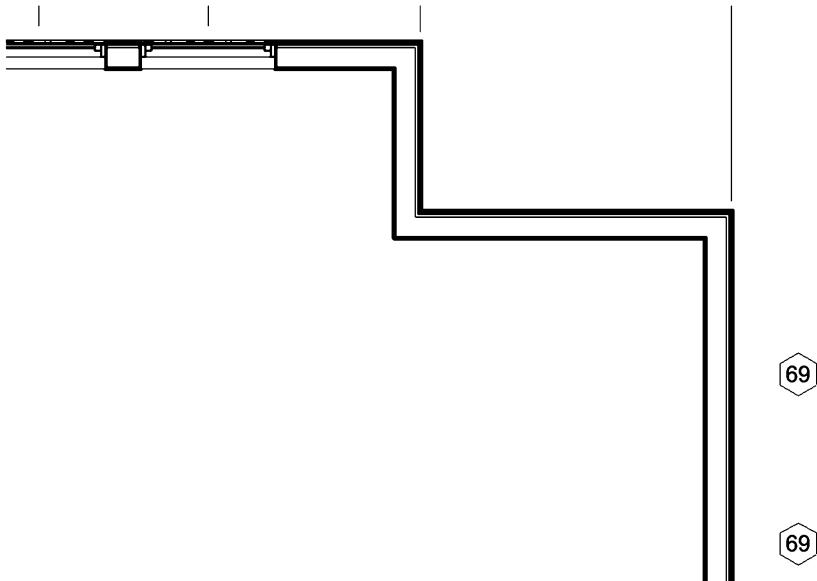

FIGURE 13-2.7 First Floor plan view; door 102 has been removed
12. Switch back to the **First Floor** view and notice that door 102 has been deleted from the project model (Figure 13-2.7).